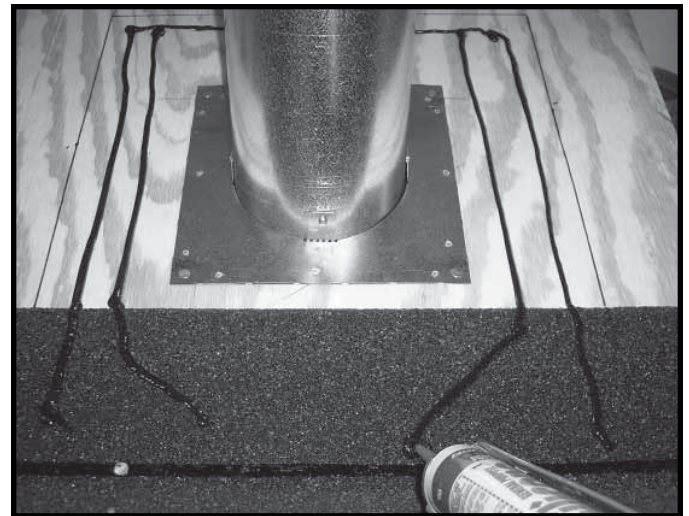

Figure 8.17 Apply Sealant
- Apply silicone sealant to roof inside the lines (Figure 8.17)